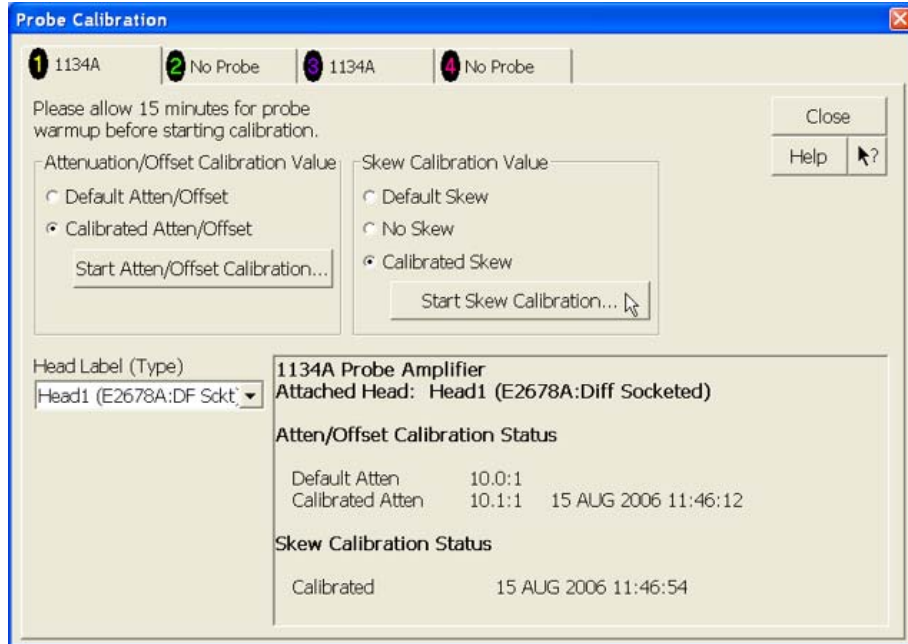

Figure 105 De-skew Connection.
- 1 Referring to Figure 105 below, perform the following steps: